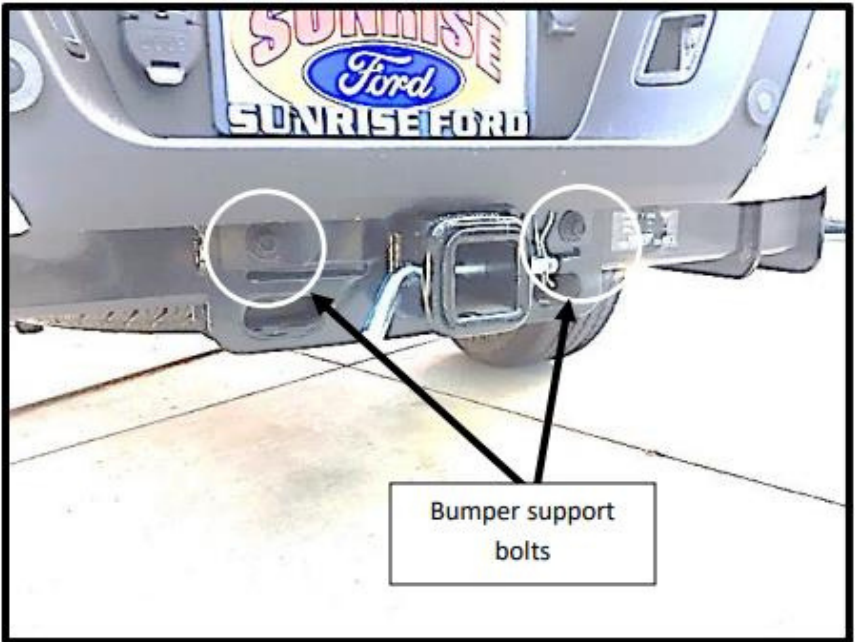
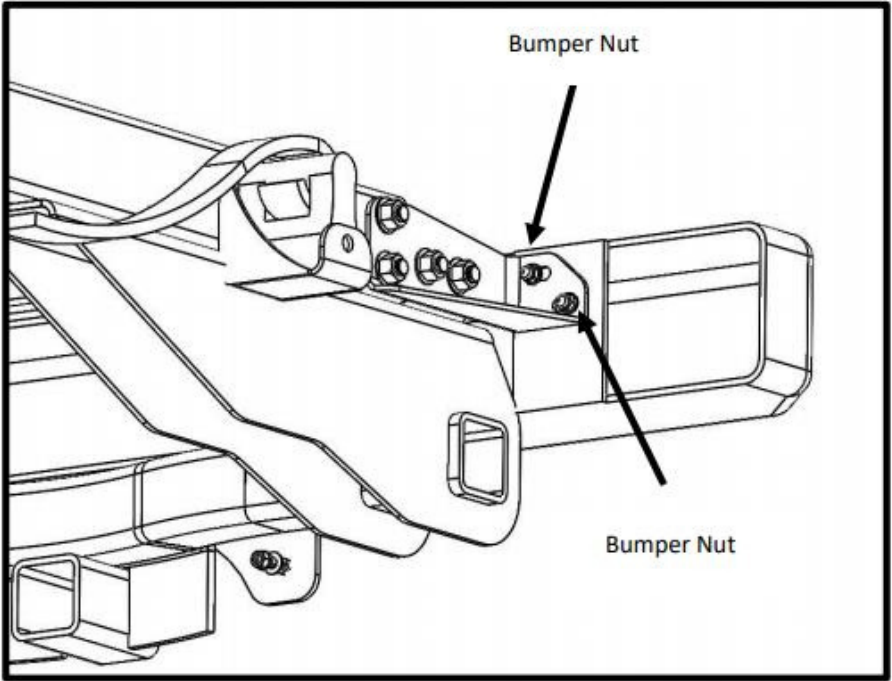

Figure 2.1
Figure 2.2 (Driver Side)
Step 2: Take the bumper off by removing the two bumper support bolts on each side of the receiver as shown in Figure 2.1. Remove the two nuts on either side of bumper as shown in Figure 2.2. Gently pull the bumper away from the vehicle, checking to make sure the wiring harness has been completely disconnected. It may be helpful to a second person to support the bumper during removal. Set the bumper aside for reassembly.